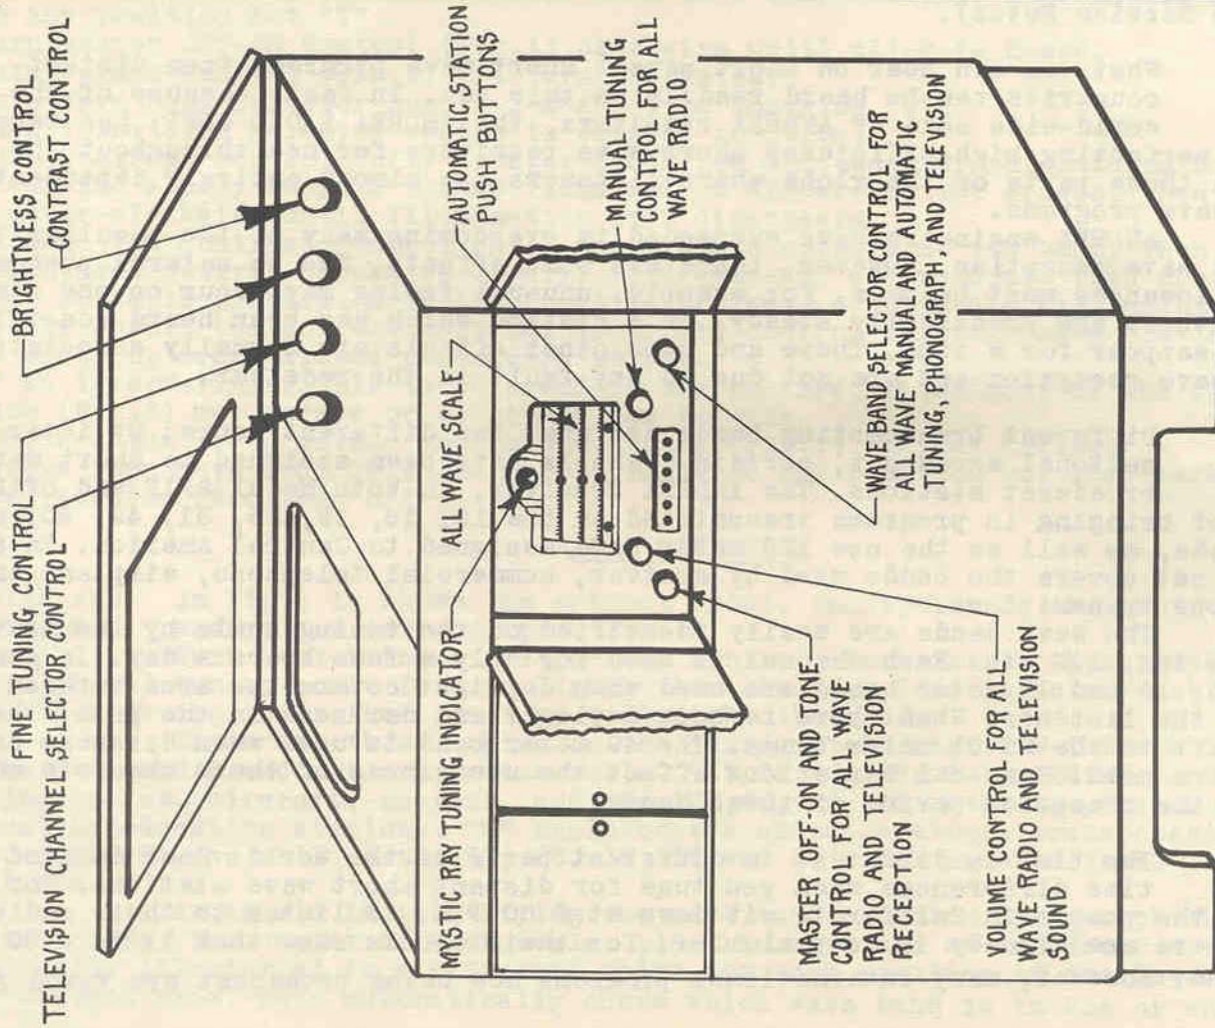
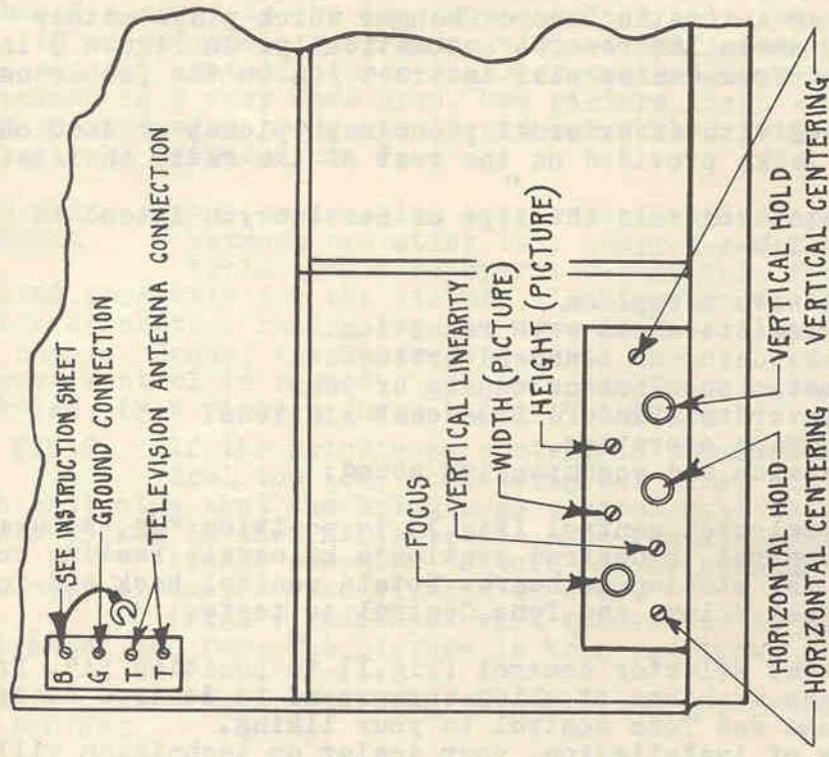

FIG. 1
FIG. 2
In the event the set is moved to another location, a slight readjustment of the controls in the rear may be necessary. For such cases only, the sketches in figure 2 give the location and use of each control.
Before the receiver is turned on at any time, turn wave band Selector control knob (Fig.1) to either the S, I, M, A or P position, and rotate counter-clockwise contrast and brightness controls (Fig.1) all the way.
Turn master Off-on Tone Control knob clockwise (Fig.1) to switch power "on". Further rotation varies the tone of the television sound - full tone reproduction being with the knob turned fully counter-clockwise. This knob is the master control knob for turning the entire instrument "off" or "on". After about 30 seconds, turn the Wave Band Selector knob (Fig.1) to position "T". This turns the television section of the instrument "on" and automatically removes the dial illumination. Allow sufficient time for the tubes to heat before proceeding further.
Turning Volume Control knob (Fig.1) clockwise increases the television sound volume; counter-clockwise decreases volume.
The television Channel Selector Control (Fig.1) selects automatically, the desired station and accompanying sound from which it is desired to receive television programs. This knob is marked 1,2,3,4,5 - representing the first, second, third, etc. television channel:
The contrast knob, located in the top panel (Fig.1), regulates the
1. Turn Brightness and Contrast controls (Fig.1) completely counter-clockwise.
2. Open doors of radio panels (Fig.1). Turn wave band Selector knob marked S-I-M-A-P-T to any position but "T".
3. Turn master OFF-ON Control (Fig.1) clockwise until click is heard.
4. Turn Volume Control (Fig.1) 1/4 turn clockwise.
9. If an interfering ripple is observed in the picture, adjustment of the fine tuning knob (Fig.1) may reduce or eliminate the trouble.
- 10 Readjust the sound volume and tone controls (Fig.1) to your liking.
- 11 Always turn wave band Selector knob (Fig.1) to any position but that marked "T" before turning receiver "off".
THE DIAL AND CONTROLS In Fig.1 is shown the cabinet front, incorporating the controls necessary for correct operation.
HOW TO TUNE IN STATIONS MANUALLY Turn wave band selector control (Fig.1) to position "M". Rotate manual tuning control to desired station's kilocycle reading on the dial until the station is heard. Rotate control back and forth about station for best quality. Adjust Volume and Tone Control to taste.
HOW TO USE AUTOMATIC PUSH-BUTTON SELECTION OF FAVORITE STATIONS Turn wave band selector control (Fig.1) to position "A". Press in button the markings of which correspond to desired station. Adjust Volume and Tone control to your liking.
There are four chassis in the back of the cabinet which your dealer will show you if you wish. Looking at the back, the various parts are seen as follows: The picture tube is positioned in the center. The radio chassis -RF12- is located in the cabinet front on the top shelf with the push-button adjustments accessible from the cabinet front. (See Fig.1). The television chassis -VF12- sets vertically toward the cabinet rear. The cabinet bottom contains the deflection high voltage chassis and the power supply chassis. The fixed television controls located on the deflection chassis are accessible from the rear. (See Fig.2). The antenna terminal board is located on the top left. (See Fig.2). The two interlock safety switches on the side panels, making contact when the back is correctly secured in place, will also be pointed out by your dealer.
The horizontal centering control is a screw driven adjustment located as shown in Fig.2 and made at the time of installation. It serves to center the picture horizontally on the picture screen.
The Vertical Centering control is a screw driver adjustment shown in Fig.2 and is used to center the picture vertically with respect to the screen opening. Resetting may be necessary for the same conditions outlined under "Horizontal Centering". See picture chart - Figure 12 indicates what occurs when this control is incorrectly adjusted. Figure 5 is the correct position.
Located as shown in Fig.2, this control is designed to bring the television images into sharp focus or definition. This control, once adjusted, should not be tampered with. When correctly focused
ADJUSTING THE PUSH-BUTTON STATION CONTROLS Remove push-button escutcheon cover plate (Fig.1). All station adjustment screws and switch are now accessible for station adjustment from the front of the cabinet.